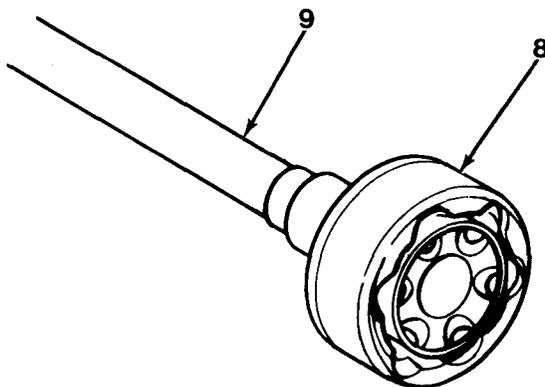

Figure 12-3
7. Separate axle shaft (9) from constant velocity joint (8, Figure 12-3).
1. Insert end of axle shaft (9) into constant velocity joint (8, Figure 12-3).